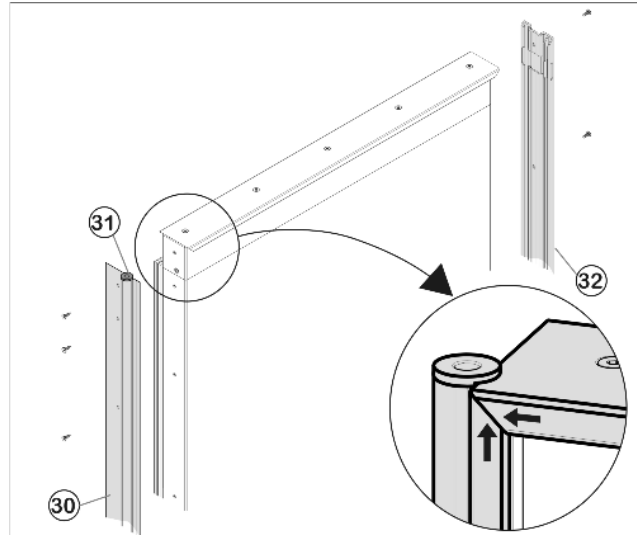

Fig. 33
- ▶ Unscrew the part of the frame that is on the hinge side Fig. 33 (30). Ensure that the top and bottom bushes Fig. 33 (31) do not fall out.
- ▶ Unscrew the part of the frame that is on the handle side Fig. 33 (32) and screw it onto the opposite side. Do not overtighten the screws!
- ▶ Unscrew the part of the frame that is on the hinge side Fig. 33 (30) and screw it to the opposite side. Do not overtighten the screws!